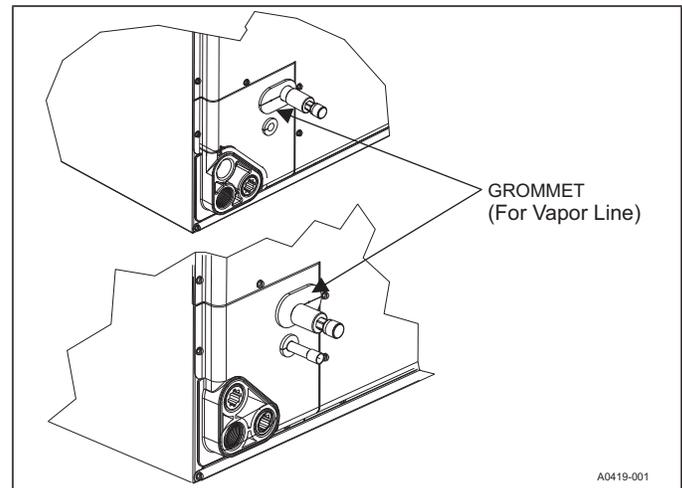

FIGURE 15: Vapor Line Grommet
- Remove grommets where tubes exit the cabinet to prevent burning them during brazing. In some units, the vapor line grommet may be shipped as a loose part with the unit. Refer to Figure 15.
- Re-attach the grommets to the lines carefully to prevent air leakage. In some units, the vapor line grommet may be shipped as a loose part with the unit. Refer to Figure 15.